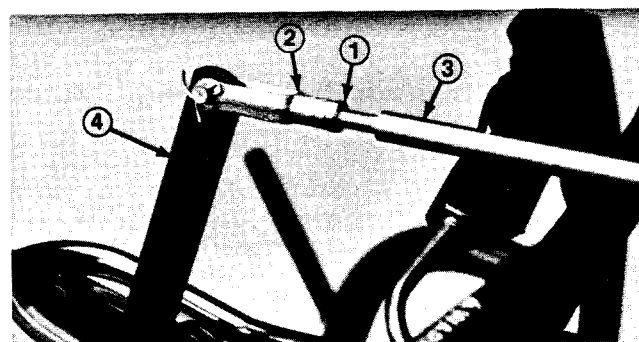

Figure 13
2. Loosen jam nut securing yoke on front of long control rod, remove cotter pin and clevis pin. (Fig. 13).